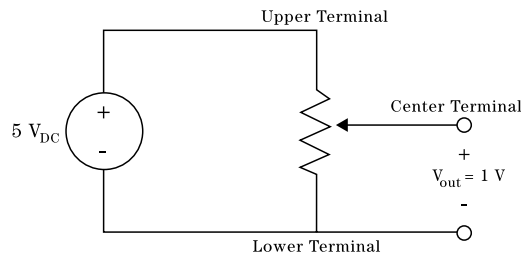

Figure 4
- b. With the power off, construct the circuit of Fig. 4. Turn on the power supply. Adjust the potentiometer so that the output, V_{out} , is one volt. Shut the power off and disconnect the supply. Carefully, without moving the arm on the potentiometer, measure the value of the resistance between the upper terminal and the center terminal, and again between the lower terminal and the center terminal. Draw the equivalent voltage divider circuit in your journal, and label the resistances with their actual value. Use these measured values and the voltage divider relationship to show that the potentiometer functions as a voltage divider.
Your task is to design a circuit that will deliver $1.5\text{ V} \pm 5\%$ across your particular load with the load connected. Figure 4 demonstrates the problem. The resistors available for use in the design are listed in Fig. 4.